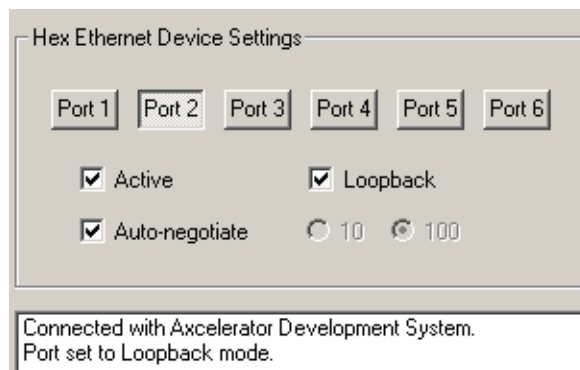

Figure 2-21. Port Set to LoopBack Mode Window
2. **Put Port 2 in loop-back by clicking on the loop-back check box for this port.** The port is set for Loopback mode. Leave other Port 2 settings in their default state (Auto-negotiate and Active). See Figure 2-21.